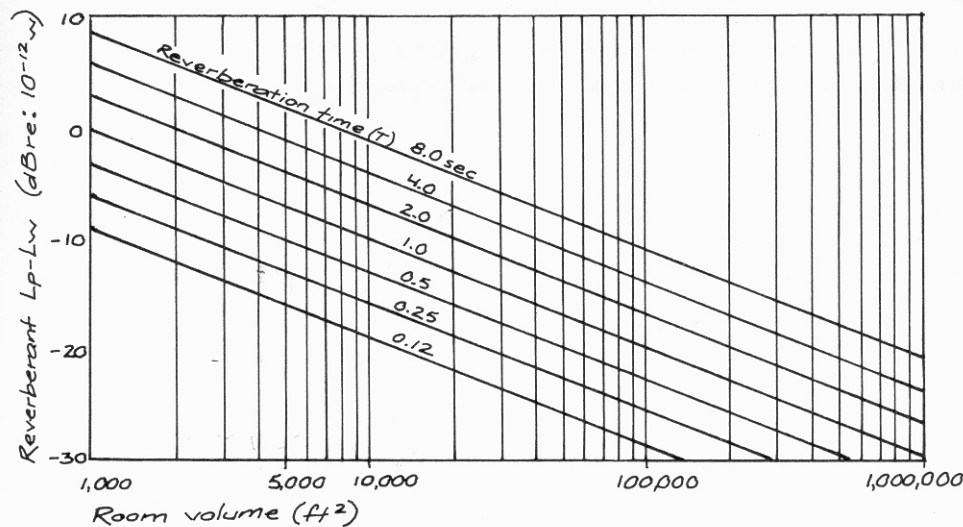

Figure E3.4.1 Reverberant $L_p - L_w$ Nomograph. Adapted, by permission, from Egan, *Architectural Acoustics*, 399.
3. Determine the sound pressure level, L_P of each individual sound source. The value for $(L_P - L_W)$ is on the vertical axis of Figure E3.4.1.